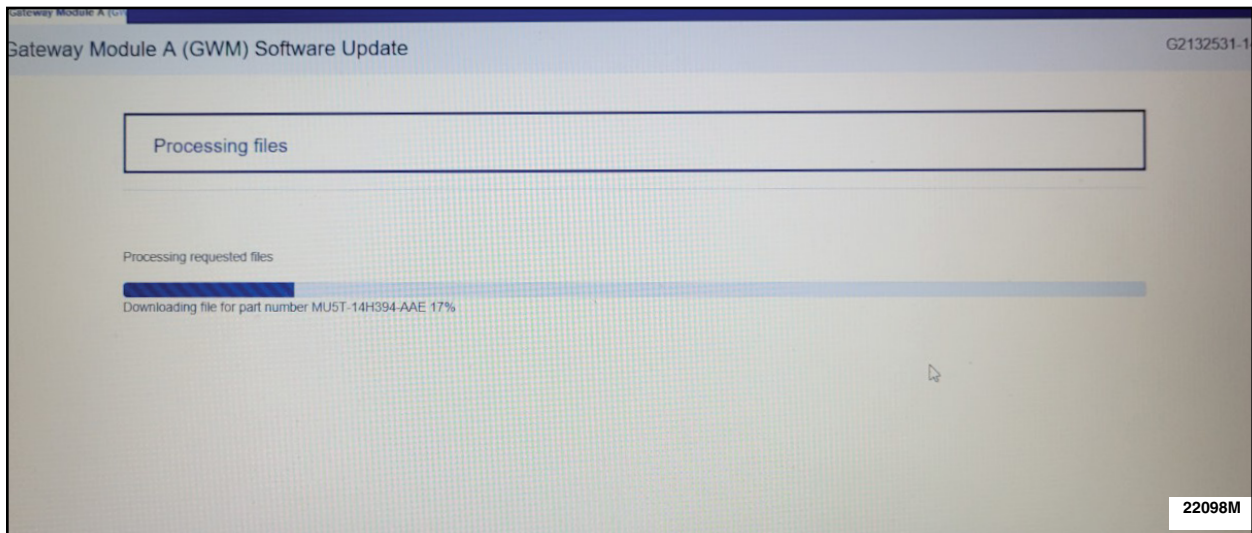

FIGURE 10
12. Allow the software files to process. See Figure 10.